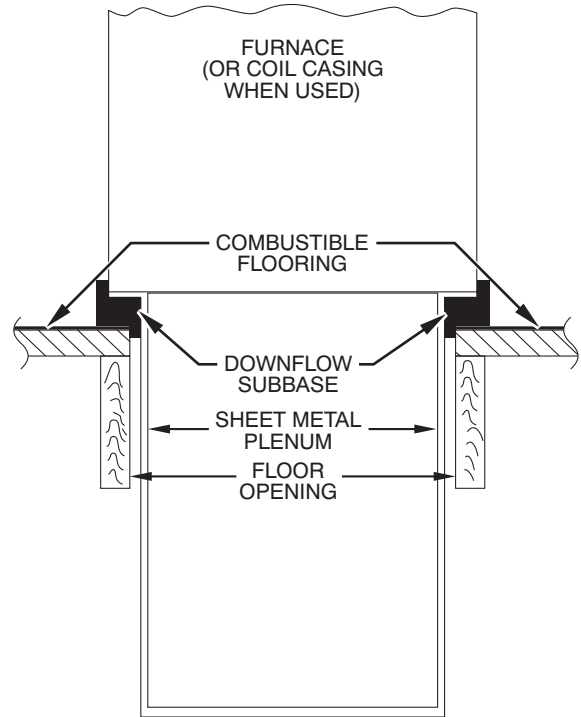
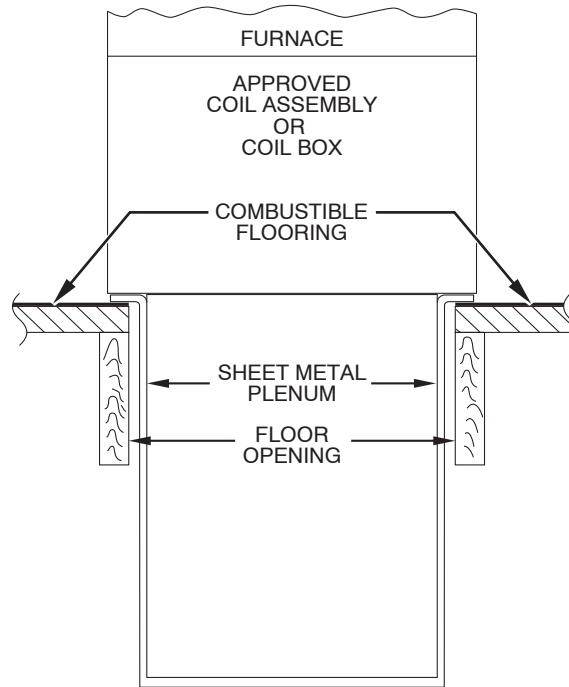

Fig. 12 – Furnace, Plenum, and Subbase Installed on a Combustible Floor
Fig. 13 – Furnace, Plenum, and Coil Assembly or Coil Box Installed on a Combustible Floor
4. If downflow subbase is used, install as shown in Fig. 12. If Coil model number END4X, ENW4X or Coil Casing model number NAEA is used, install as shown in Fig. 13.